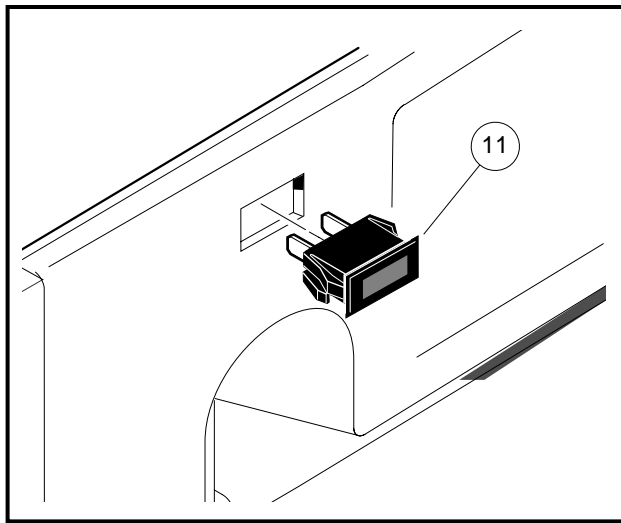

Figure 12-22 Oil Warning Light
3. Disconnect the wires from the oil warning light (11) (**Figure 12-22, Page 12-23**). Do not allow wires to touch.
1. Push a new unit into hole in dash until plastic tabs engage dash (**Figure 12-22, Page 12-23**).